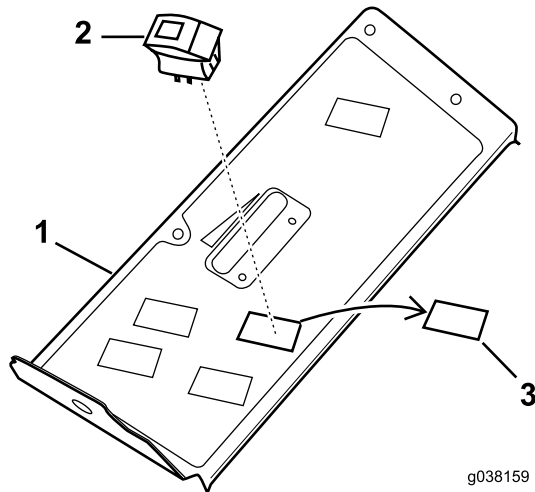

Figure 6
2. Locate and remove the knockout plug located towards the front of the control panel under the decal (Figure 6).
3. Insert the light switch as shown in Figure 6.